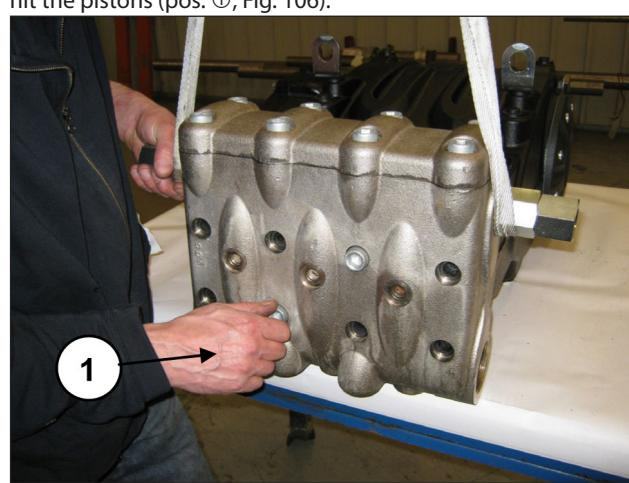

Fig. 105
It is now possible to remove the head from the pump casing, unscrewing the 8 M16x180 screws (pos. ①, Fig. 105).